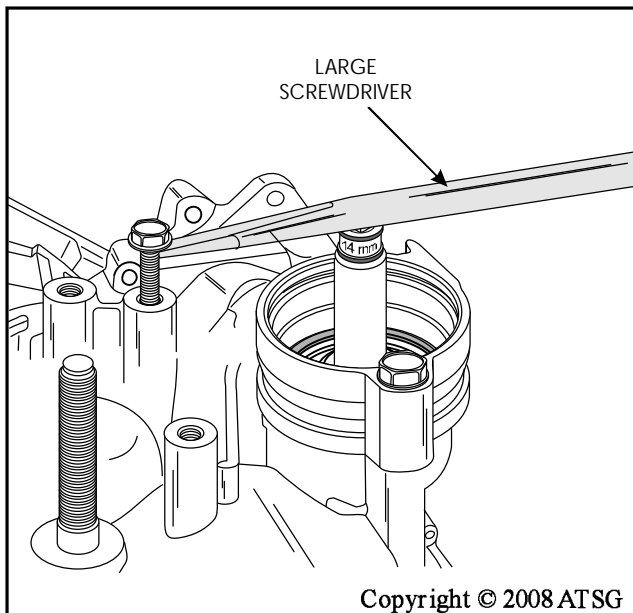
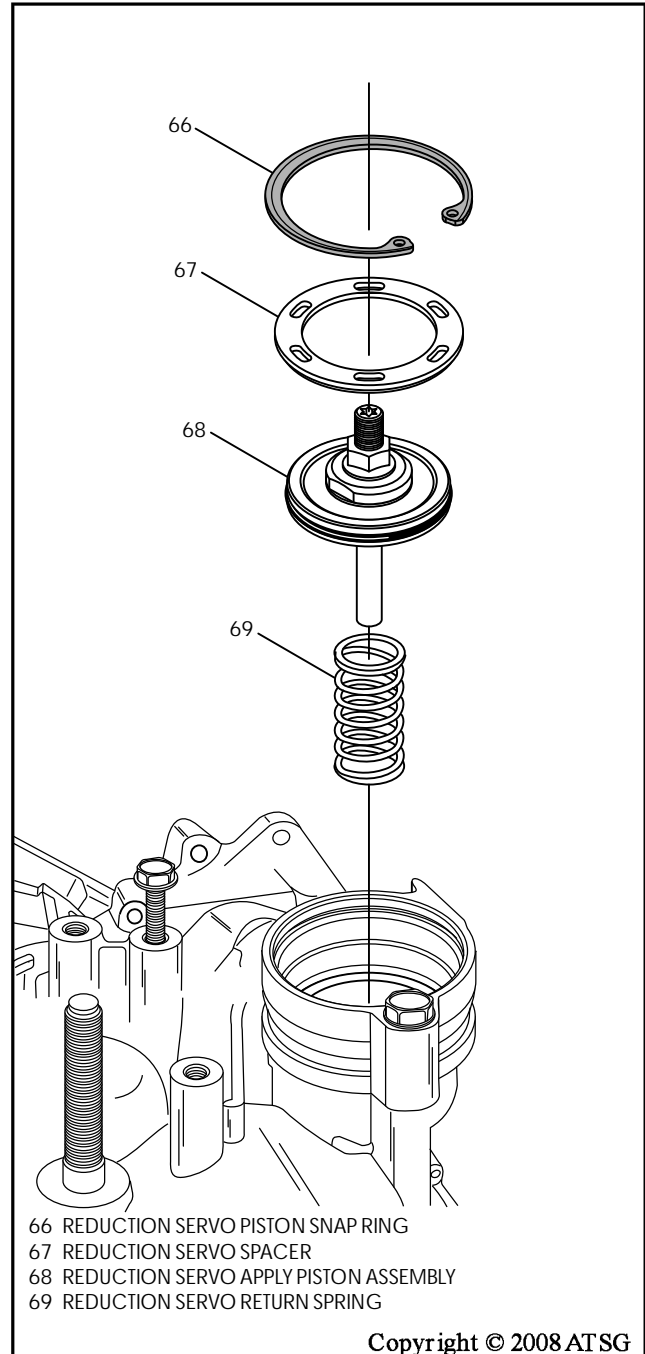

Figure 47
Figure 48
41. Compress the reduction servo piston using a 14mm deep socket and a large screwdriver, as shown in Figure 47, and remove the snap ring, as shown in Figure 48.
42. Remove the reduction servo spacer, the apply piston and return spring, as shown in Figure 48.